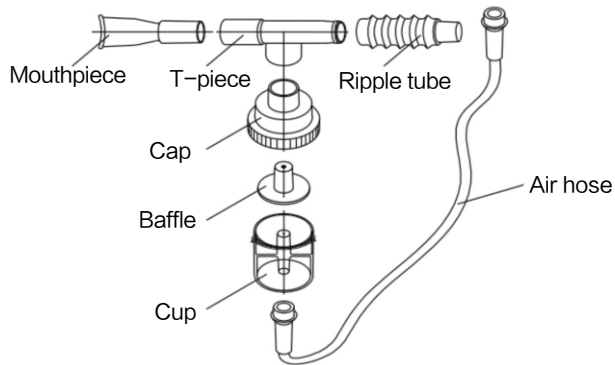

Figure 10: Nebulizer Components
- › Pull out the air hose, pull the mouthpiece, downward pull the cap, empty remained medicinal liquid in the nebulizing cup, then wash the air hose, mouthpiece, cap, baffle, cup, ripple tube, T-piece, etc. , with pure water or immerse them in warm water for about 15 minutes (Figure 10). In order to wash them properly, you may add some vinegar in water.